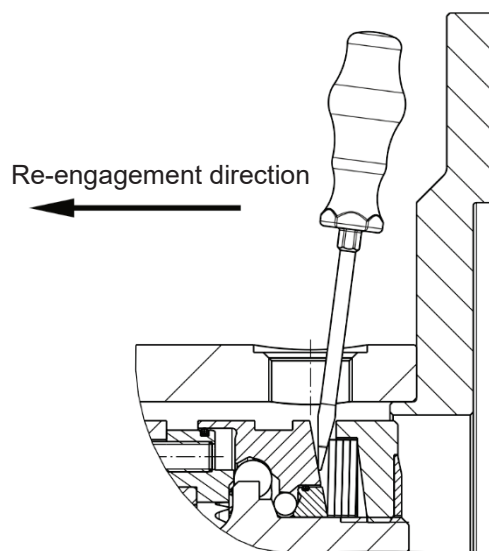

Fig. 4
Re-engagement (Fig. 4)
There are two bores (180° offset to one another) for manual clutch re-engagement. They are locked with screw plugs (12). In order to re-engage the clutch, at least one of the two screw plugs (12), including its O-ring (13), must be loosened and removed. EAS®-compact® overload clutch re-engagement is carried out by applying axial pressure to the thrust washer (1.3) in the direction of the output (flange Y) using a suitable lever tool (Fig. 4). It may be necessary to turn slightly between the pressure flange (1.2) and the thrust washer (1.3).